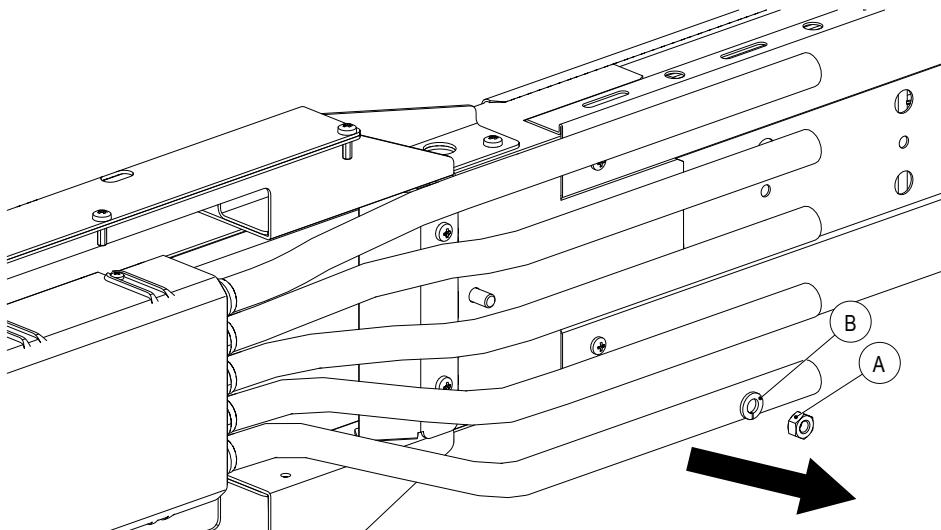

Fig. 66: Loosen rear hexagon nut M6 (A) of anchor point
2. Hang the line feed with terminal box in the anchor points on the fastening frame. Observe the PE position during this. Conductix-Wampfler recommends attaching the PE rail as the last or lower pole (viewed from above) (see Fig. 66).